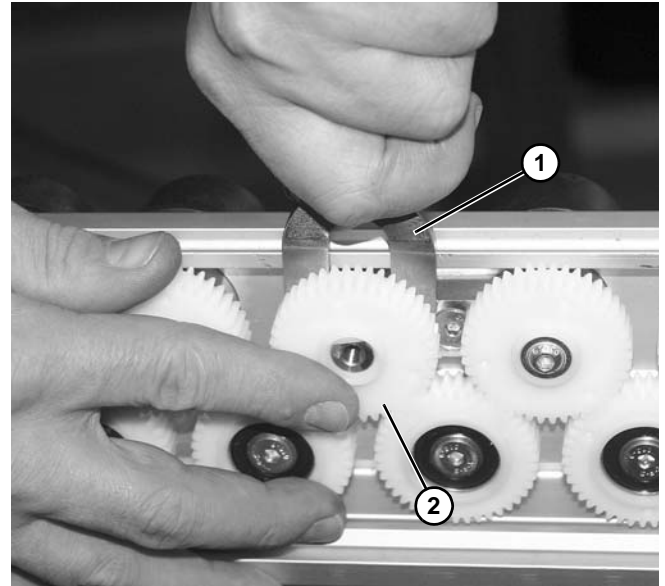

Figure 59
4. Install opposite end of sprocket removal tool, part number 400289 (**Figure 59, item 1**) to pry gear (**Figure 59, item 2**) from roller shaft.